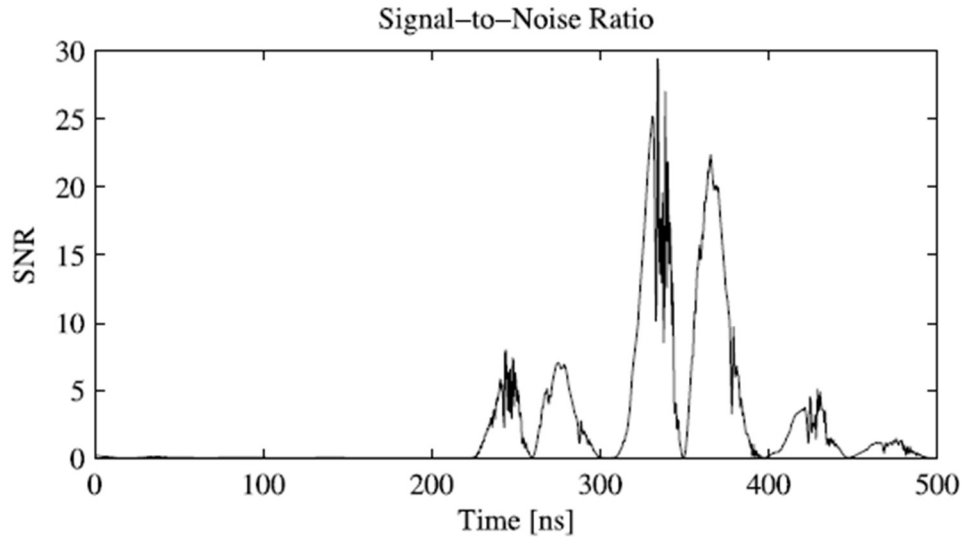

Figure 4.7. The signal levels, the standard deviation of the noise, and the SNR when attacking a uniformly distributed 8-bit data value on our microcontroller.
- 3) (25 pts.) Consider the third plot of Figure 4.7 from Chapter 4 of *Power Analysis Attacks: Revealing the Secrets of Smart Cards* by Mangard et al. The third plot of Fig. 4.7 shows the resulting Signal-to-Noise Ratio (SNR) for a uniformly distributed 8-bit data value used as a plaintext input to AES encryption with a secret key.
- a. (5 pts.) Write a proper expression for the Signal-to-Noise Ratio (SNR) calculation used to produce the y-axis in the third plot of Figure 4.7. Make sure that the following three variables appear in your answer: P_{exp} , $P_{switching}$ and $P_{el.noise}$.
- b. (5 pts.) Prior to 200 ns, the SNR in the third plot of Figure 4.7 has a value of approximately zero. Why is this the case and what does this SNR value of zero indicate?
The SNR in Fig. 4.7 prior to 200 ns is zero because the magnitude of P_{exp} is approximately zero. P_{exp} is zero prior to 200 ns because there are no exploitable instructions and/or data being executed; most likely the first 200 ns execute set-up code not specific to the cryptographic algorithm being executed after 200 ns.
- c. (15 pts.) In class it was stated that the two largest SNR values in the third plot of Figure 4.7 occur at 330 ns and 362 ns. For the purposes of using power as a side-channel attack, why are the measurements taken at 362 ns preferred over the even larger SNR measurements at 330 ns? You are required to answer this question in three parts as follows:
NOTE: a number of students said that at 330 ns the SNR was somehow significantly more difficult to utilize for DPA. This is not true at all! In fact, in lecture Figure 4.8 with an SNR of around 0.15 (instead of between 10 and 30 as shown in Figure 4.7 at 330 ns) was introduced as sufficient for DPA.